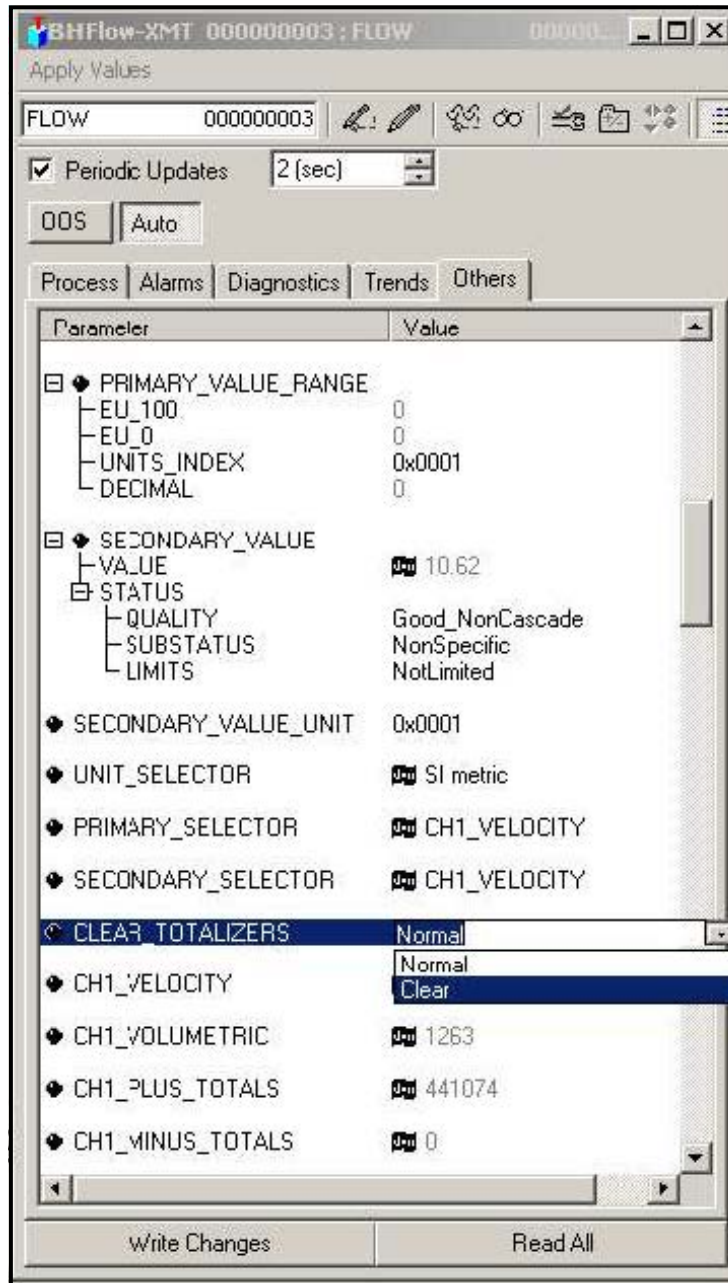

Figure 43: Clear Totalizers Drop Down List
3. Select Clear from the drop down list box (see *Figure 43* below).